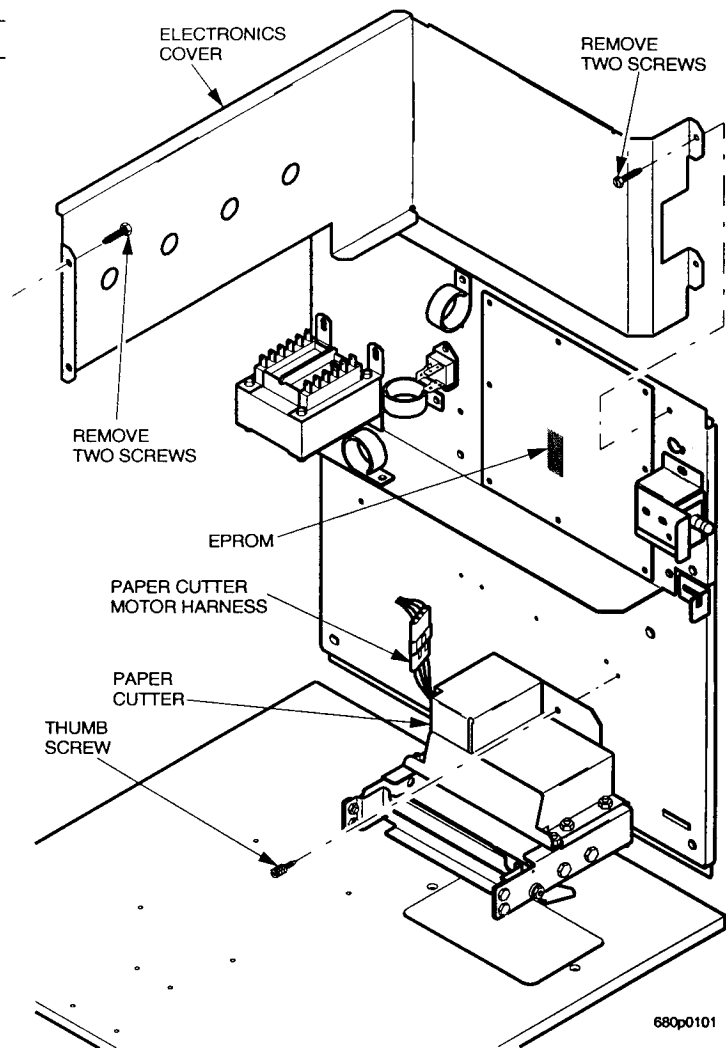

Figure 4
- Remove the electronics cover by removing the two screws on the front right corner of the cover and the two screws located on the back left corner of the cover (see figure 4)
3. Locate the paper cutter assembly and its motor harness (see figure 4). Disconnect the harness at the inline connection as shown.
4. Remove the thumb screw as shown (see figure 4). Keep the thumb screw.